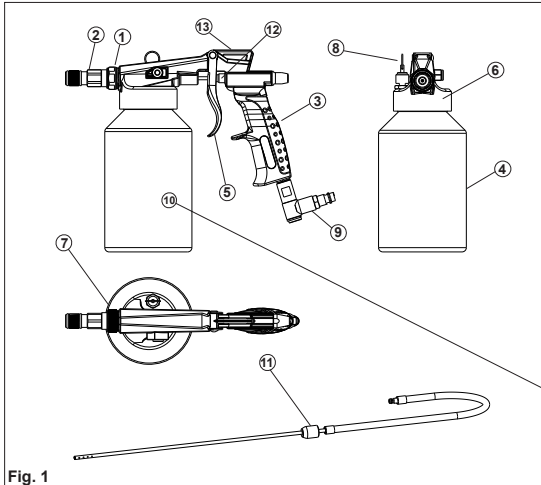

Fig. 1
- 12.2.1 Periodically lubricate the Air Valve Rod Item 12 Fig.1 (e.g. after completion of the cleaning work) with a suitable lubricant (for example, TUNAP Services Spray MF 900).